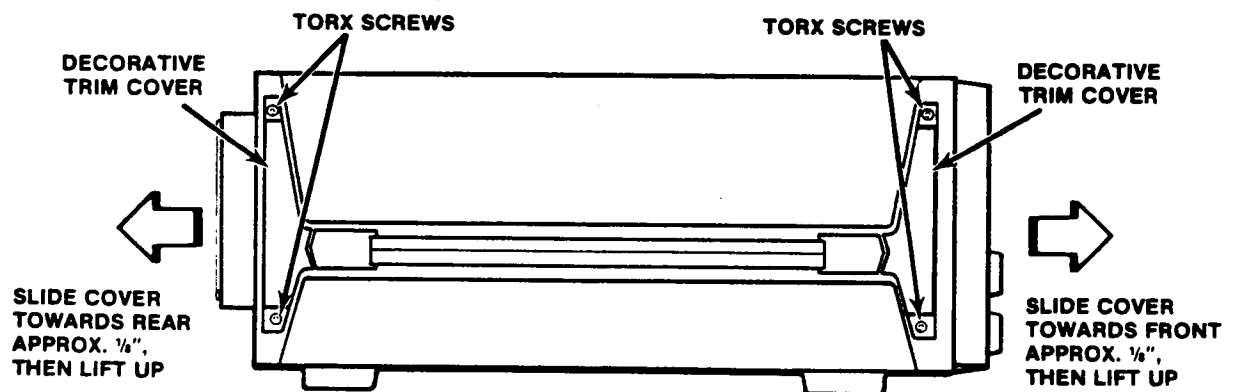

Figure 16. - Removal of the left decorative trim covers.
- () 4. Remove the torx screws from the (left side) front and rear decorative trim covers, see figure 16.